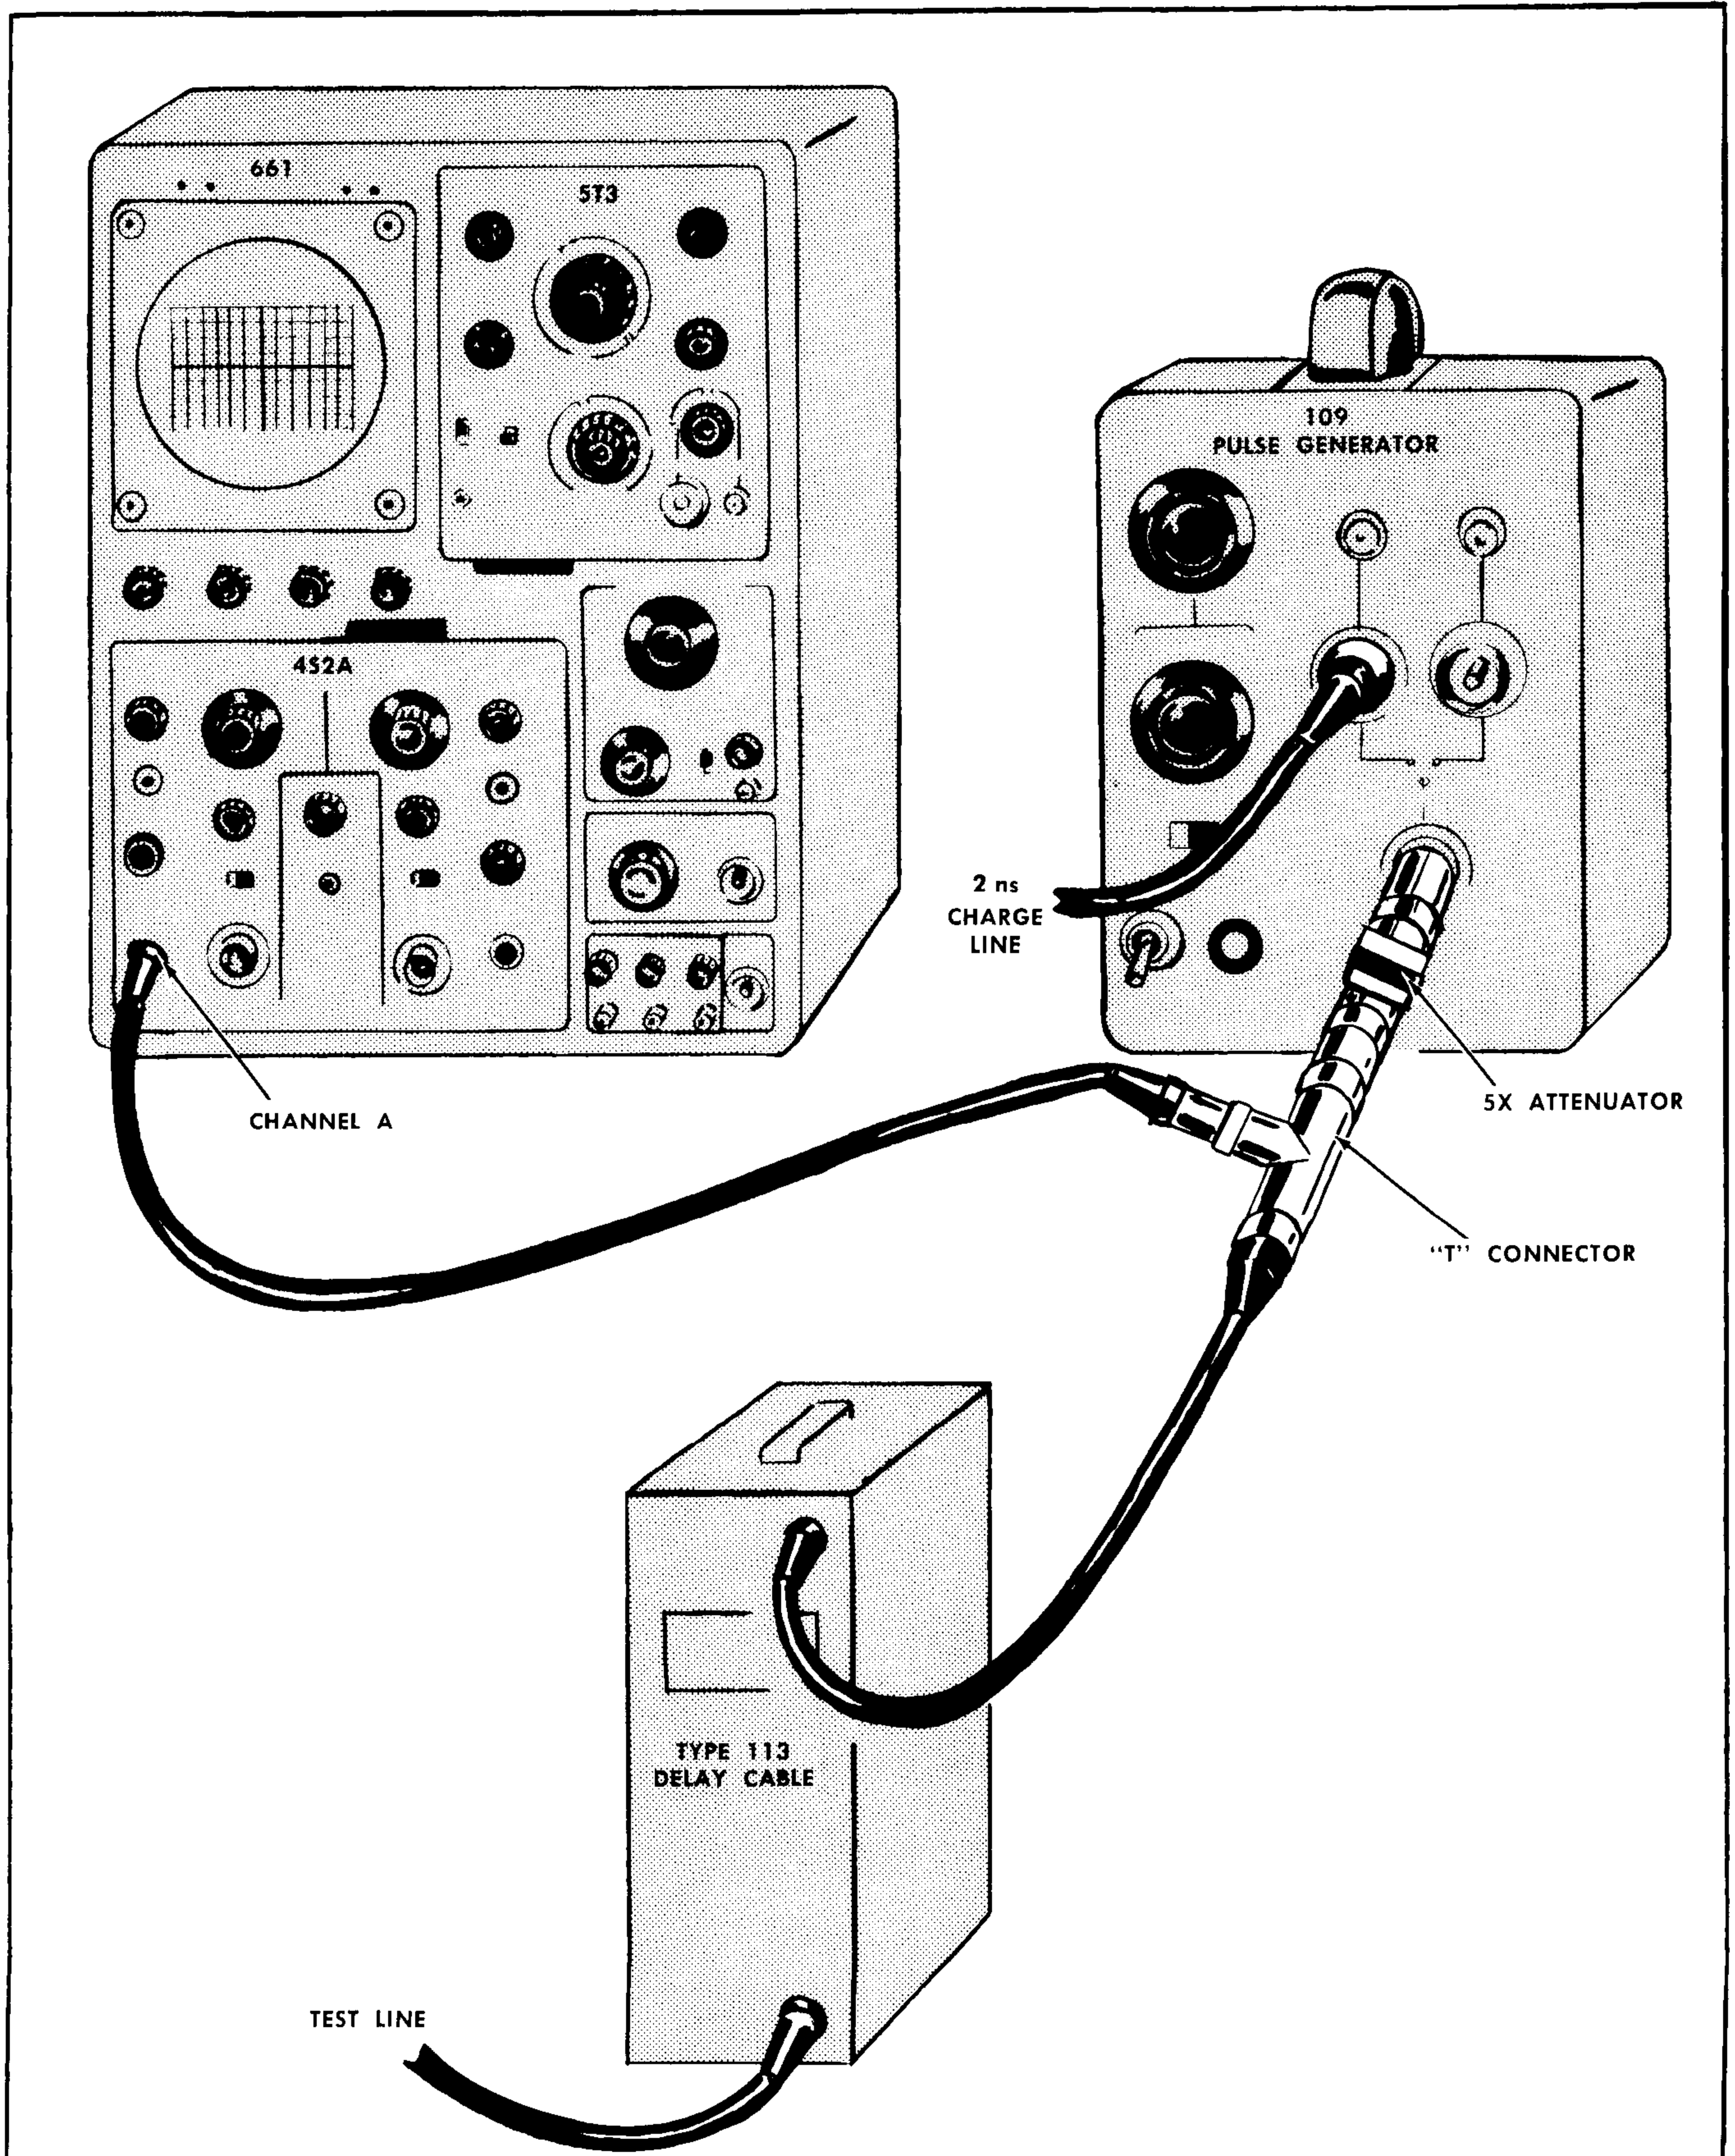

Fig. 2-22. Test setup for making TDR measurements with Type 109 Pulse Generator.
Pulsing the Transmission Line (1). In the system diagrammed in Fig. 2-22, a flat-topped, fast-rising step is generated by the 109 Pulse Generator. Triggering energy is extracted from the Trigger Takeoff built into the A Channel of the Type 4S2A. The output of the Type 109 pulser is applied through a 5X attenuator to a GR T connector, one side of which is connected to the Channel A input of the 4S2A, the other side through a Type 113 Delay Cable to the line under test. The pulse width applied to the system is established by plugging the desired length of charge line into the 50 ohm charge line connector #1 on the Type 109. In the system shown, a 2 ns charge line is used, giving a pulse width of 4 ns. The 109 output was set for a pulse amplitude of 5 volts to stay within the input voltage rating of the 4S2A.